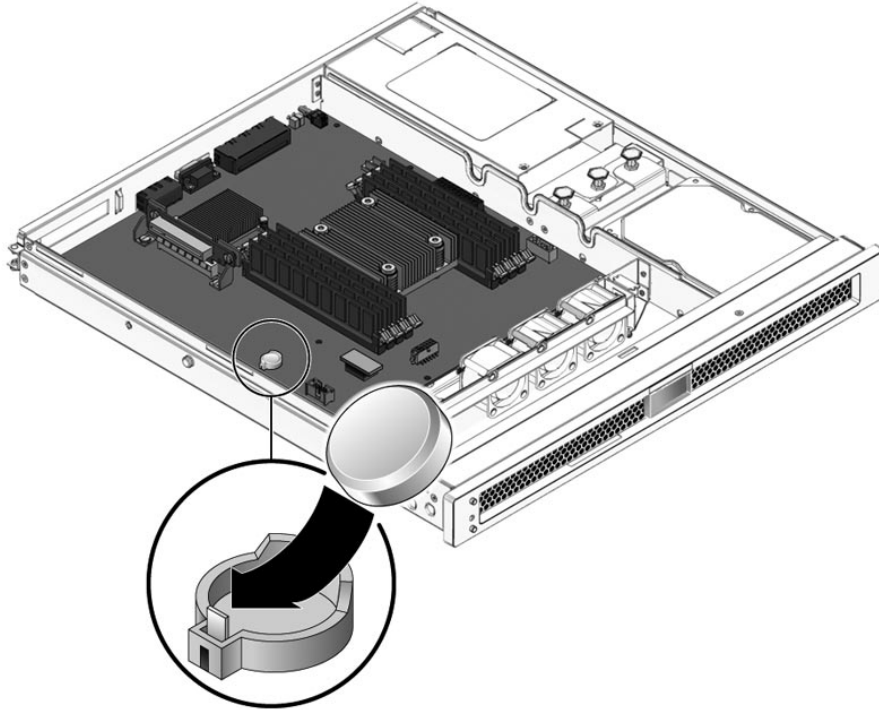

FIGURE 5-16 Installing the Clock Battery on the Motherboard
2. Press the new battery into the motherboard with the + facing upward (FIGURE 5-16).